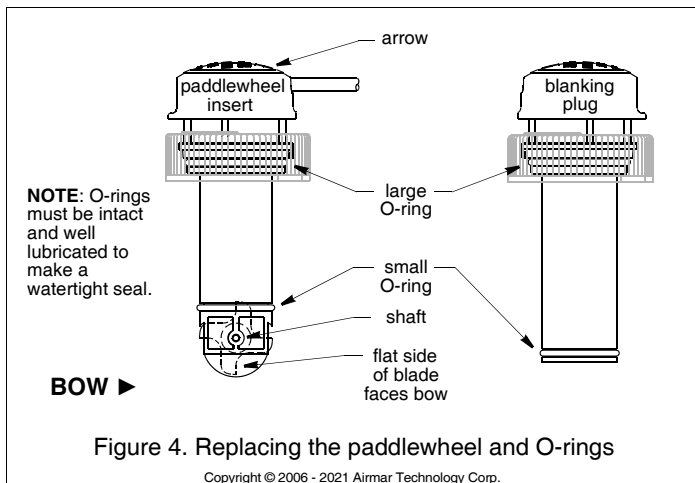

Figure 4. Replacing the paddlewheel and O-rings
1. All the O-rings must be intact and well lubricated to make a watertight seal. On the blanking plug, inspect the O-rings (replace if necessary) and lubricate them with the silicone lubricant supplied or petroleum jelly (Figure 4).
1. Using the new shaft, push the old shaft out about 6mm (1/4"). With pliers, remove the old shaft (Figure 4).